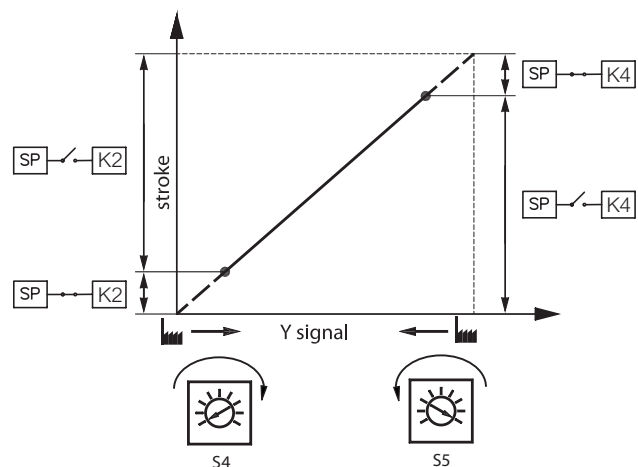

Fig. 4
- **SW6: C/P – Output signal mode (Fig. 4.):**
- OFF position: V; input signal Y is set to voltage (V)